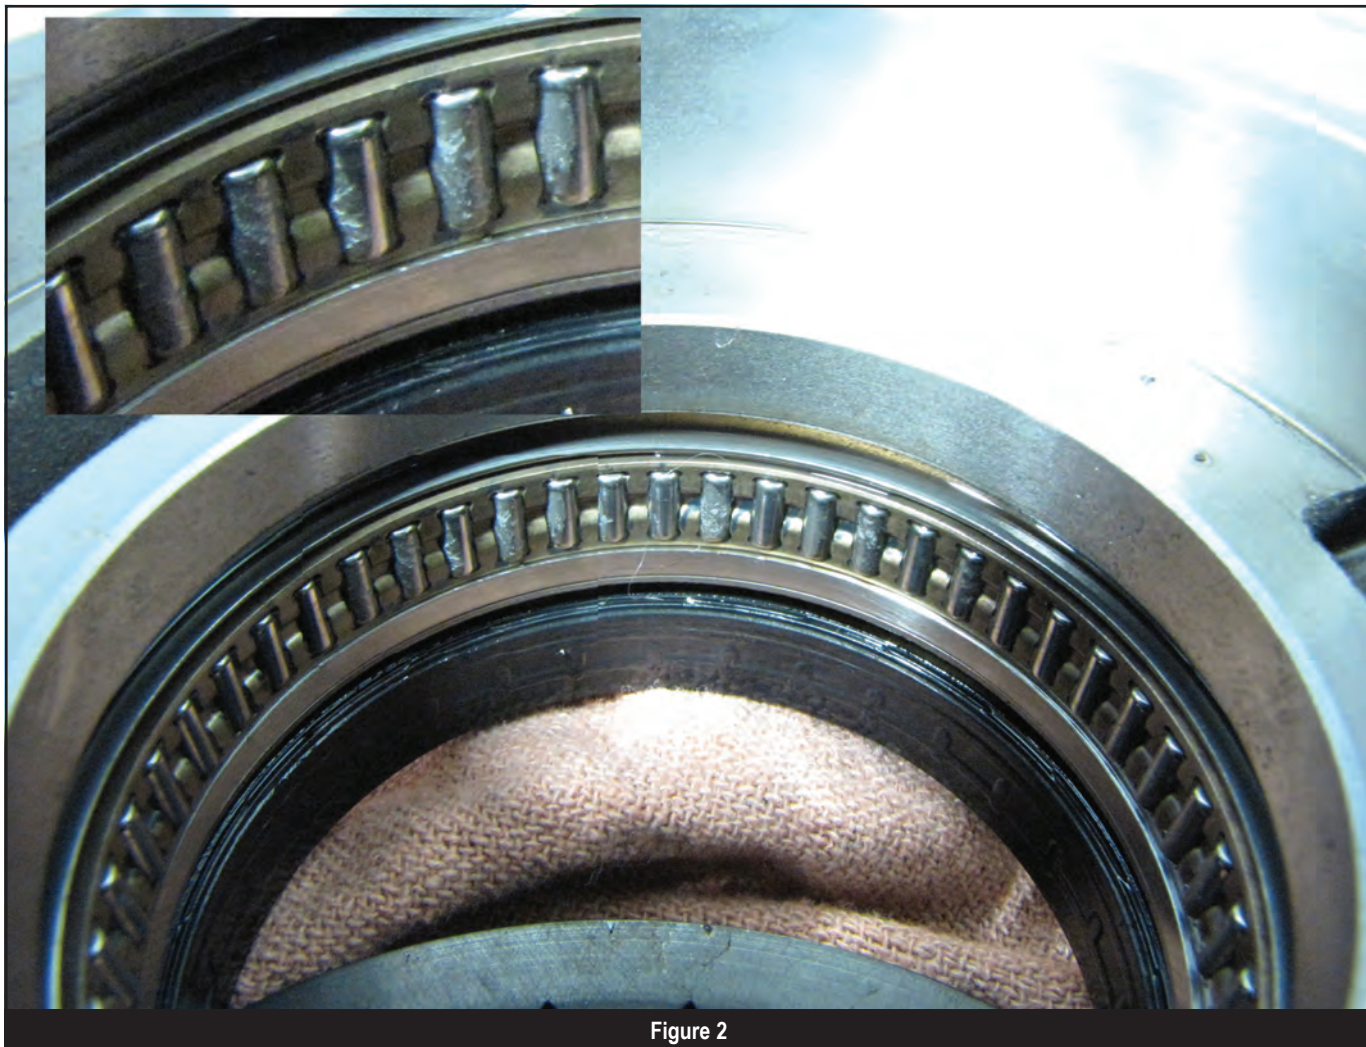

Figure 2
- Torque converter hub and pump bearing failure (figure 2).
excessively (Figure 2 & 4).